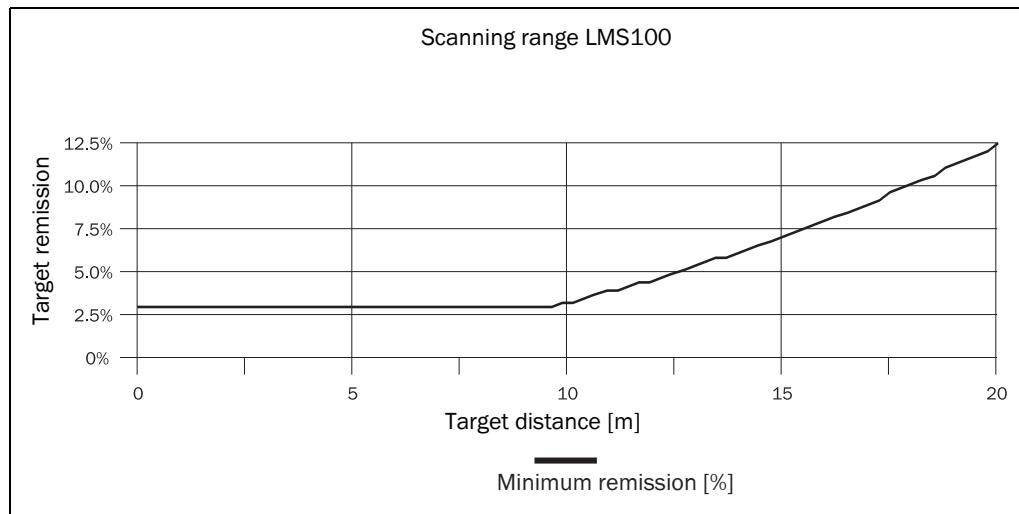

Fig. 12: Scanning range as a function of the target remission
The scanning range of the LMS is dependent on the remission of the objects to be detected. The better a surface reflects the incident radiation, the greater the scanning range of the LMS. The diagram in Fig. 12 indicates the relationship between remission and detectability.
**Important** The diagram in Fig. 12 is only applicable if no filters are configured.